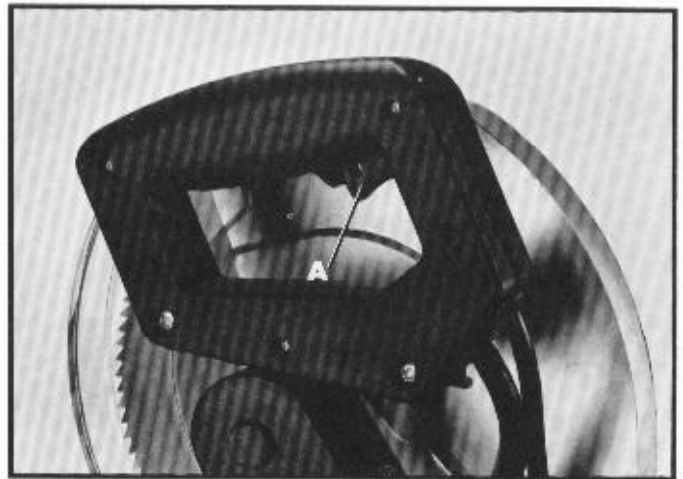

Fig. 15
To start the machine, depress switch trigger (A) Fig. 15. To stop the machine, release the switch trigger.
This miter box is equipped with an automatic electric blade brake. As soon as the switch trigger (A) Fig. 15, is released, the electric brake is activated and stops the blade in seconds.
DANGER: A TURNING SAW BLADE CAN BE DANGEROUS. AFTER COMPLETING CUT, RELEASE SWITCH TRIGGER (A) FIG. 15, TO ACTIVATE BLADE BRAKE. KEEP SAW HEAD DOWN UNTIL BLADE HAS COME TO A COMPLETE STOP.